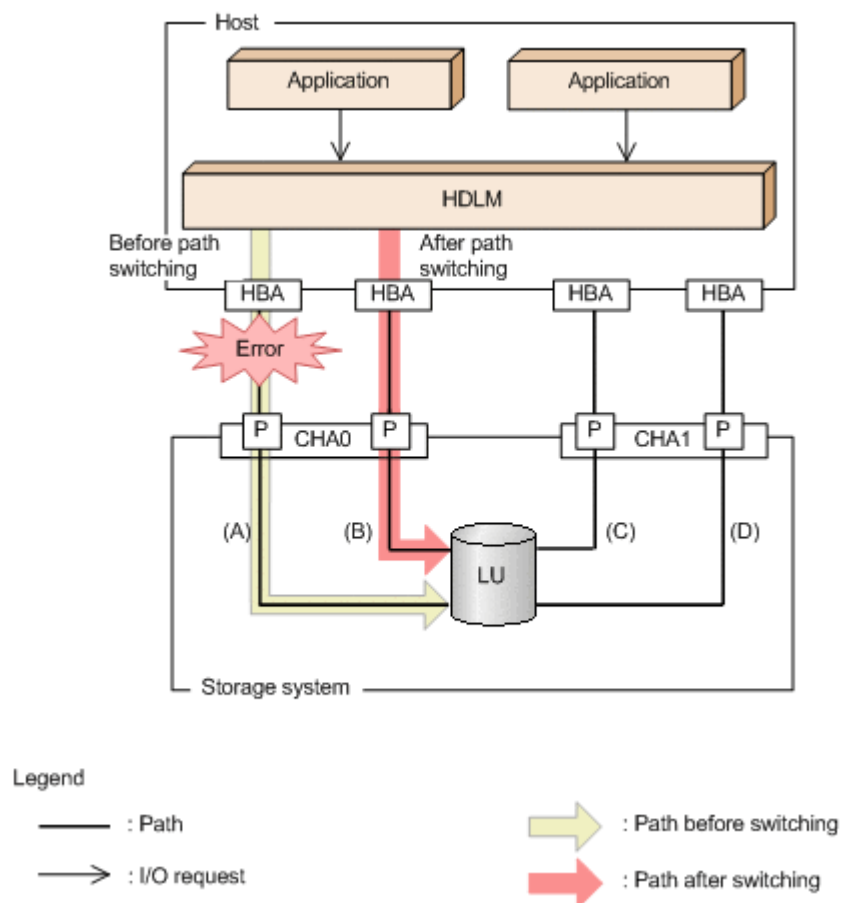

Figure 2-10 Path Switching
For example, in Figure 2-10 Path Switching on page 2-19, the owner controller of an LU is CHA0, and access to the LU is made via only one path (A). After that access path (A) is placed offline, the first choice for the switching destination is the other path connected to CHA0 (B). If an error also occurs on that path (B), then the next possibility for a path comes from one of the two paths (C or D) connected to CHA1.
When the Hitachi USP series, Universal Storage Platform V/VM series, Virtual Storage Platform series, VSP G1000 series, Hitachi AMS2000 series[#], Hitachi SMS series[#], HUS100 series[#], or HUS VM is being used, all the paths are owner paths. This means that all the paths that are accessing the same LU are possible switching destinations. For example, in Figure 2-10 Path Switching on page 2-19, the LU is accessed using only the one path (A). However, after that path is placed offline, the switching destination can come from any of the other three paths (B, C, or D).